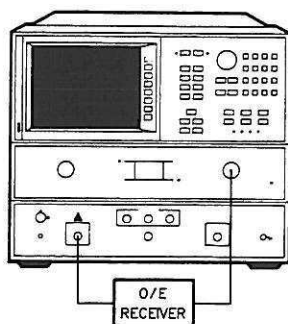

Figure 11. O/E Transducer Measurement Configuration
6. Insert the DUT (O/E receiver) as shown in Figure 11. Be sure all connections are clean.